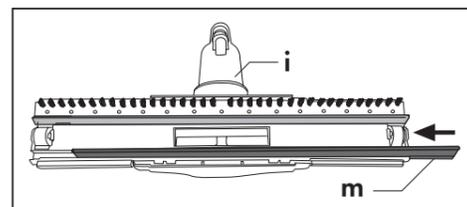

Fig. 9
- The stiff blade (m) is used in combination with the vacuum function. It should be installed to the front groove on the brush (i) Fig.9